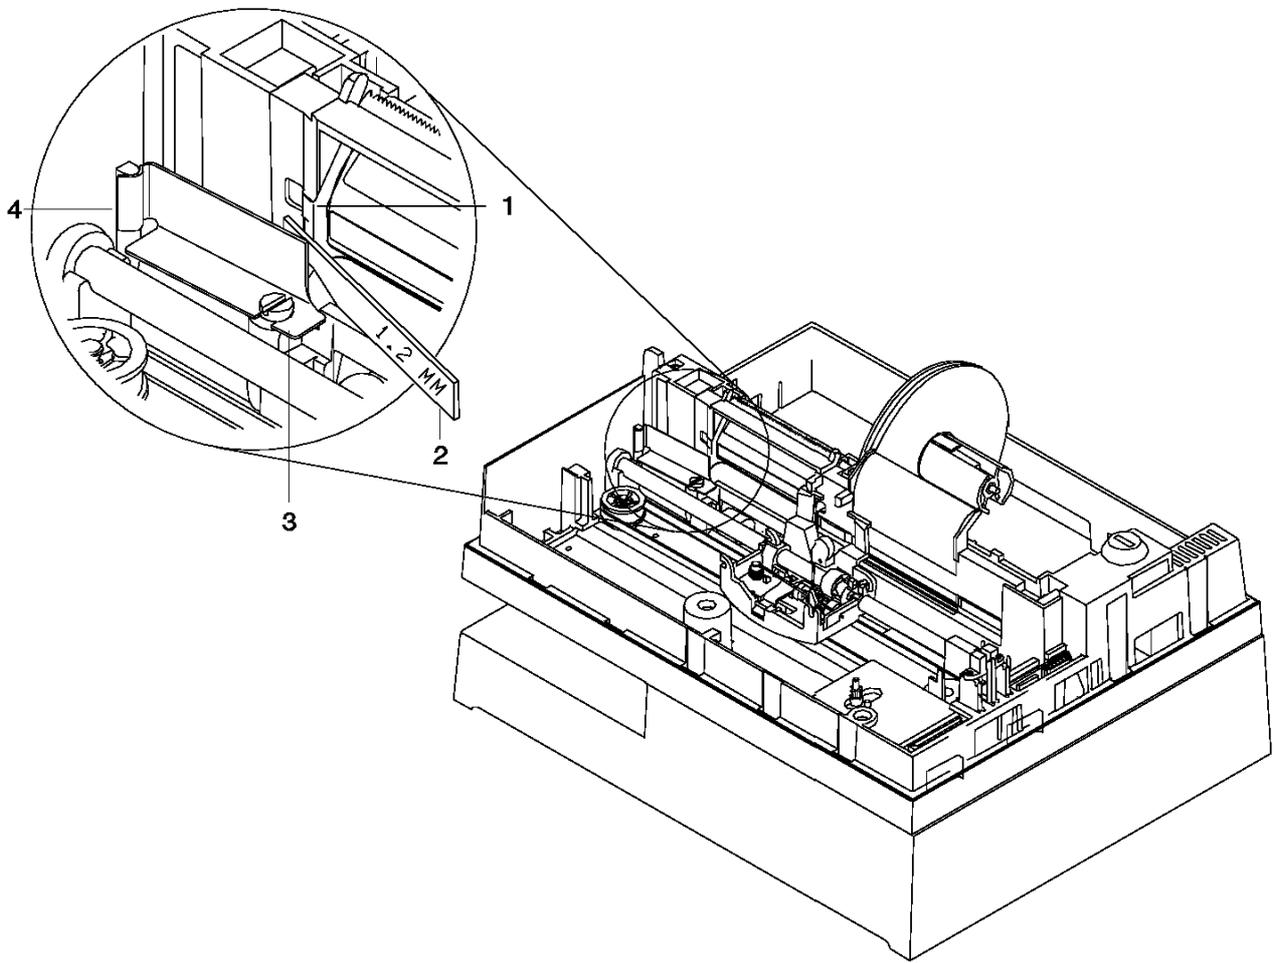

Figure 5-6. Adjusting the Print Head Cam. For illustration, the top cover has been removed. Removal of the cover is not necessary for this procedure.
2. Loosen the screw (3).
3. Ensure that the end of the cam (4) is installed over the side frame rib.
4. Insert a 1.2 mm gauge (2) as shown in Figure 5-6.
5. Hold the gauge against the platen (1) and move the cam until it touches the gauge. Tighten the screw while applying a force down, back, and to the left. Remove the gauge. (After the screw is tightened, the gauge should fit tightly into the space between the platen and the cam. The cam should not move when the gauge is inserted or removed.)